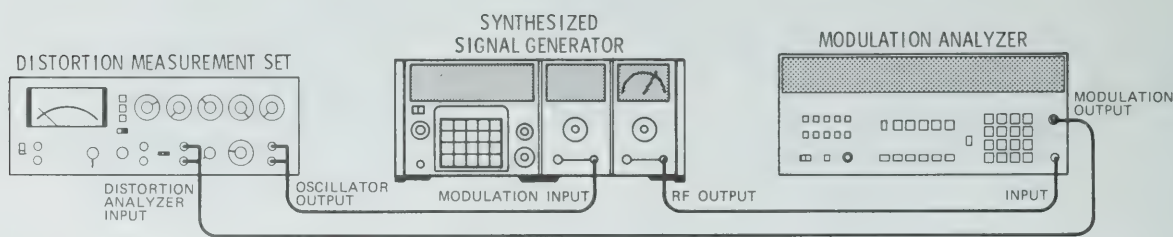

Figure 4-17A. Phase Modulation Distortion Test Setup
- 1. Connect equipment as shown in Figure 4-17A